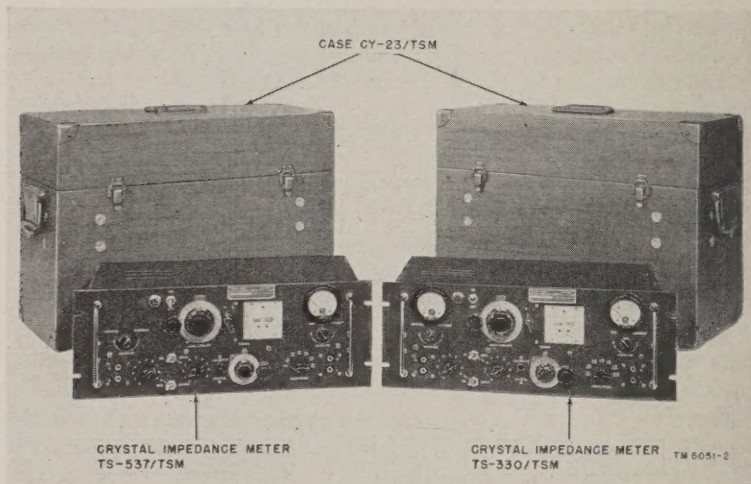

Figure 2. Crystal Test Set AN/TSM-3, components.
*a. GENERAL.* Crystal Impedance Meter TS-330/TSM is one of the major components of Crystal Test Set AN/TSM-3. This test set (fig. 2) consists of Crystal Impedance Meter TS-330/TSM, mounted in Case CY-23/TSM, and Crystal Impedance Meter TS-537/TSM, also mounted in Case CY-23/TSM. The TS-537/TSM is similar to the TS-330/TSM and is used to test crystal units in the frequency range of 75 to 1,100 kc (kilocycles).